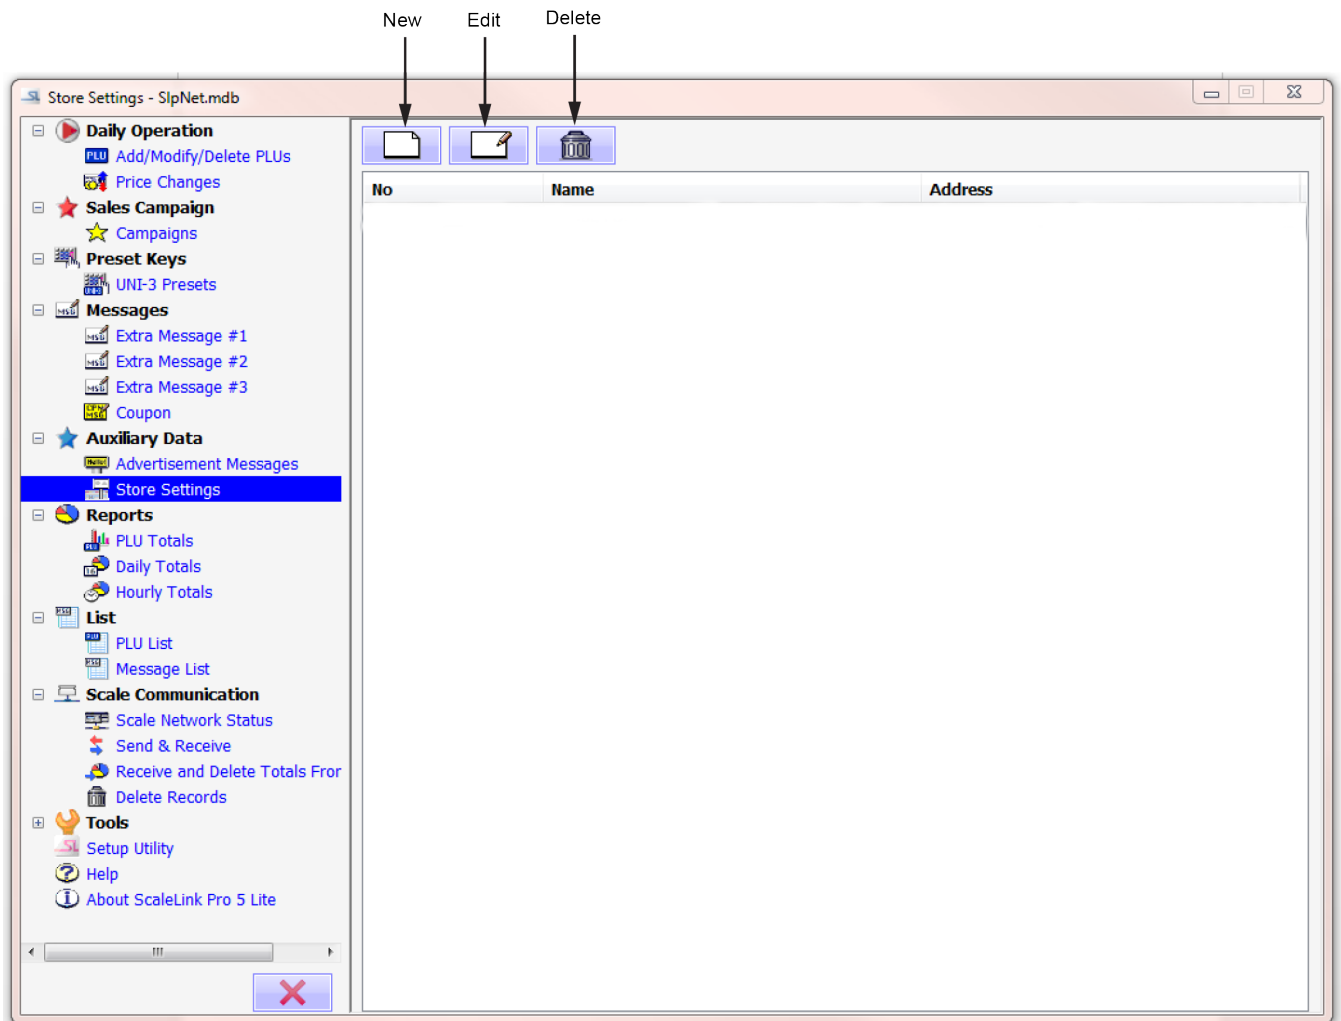

Figure 7-1
1. Select Store Settings from the Auxiliary Data drop down menu. See Figure 7-1.